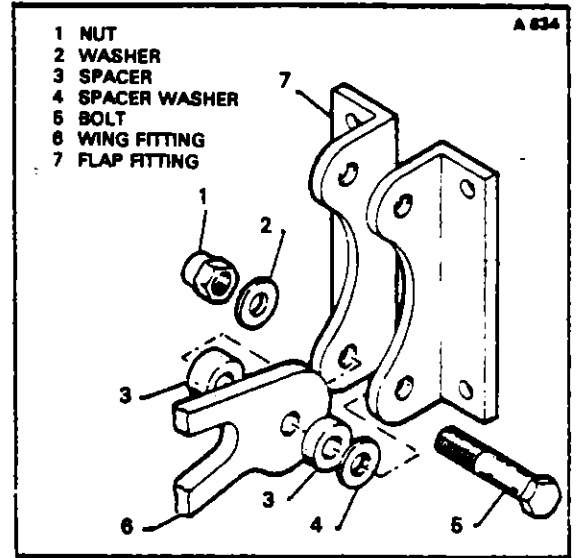

FIGURE 4-4. AILERON BEARING INSTALLATION
- a. Position the aileron, lubricate (Refer to Lubrication Chart, Section II) and install the inboard hinge bolt. (Refer to figure 4-4.) Install the outboard bolt. Place the spacer washers to allow for best alignment of hinges. Move the aileron through its full travel to ascertain that there is no binding.